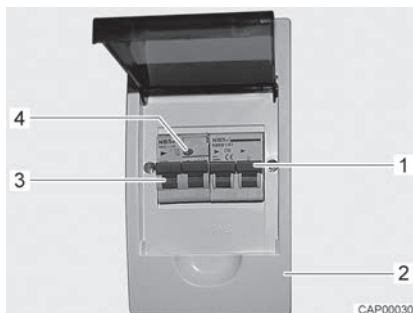

Fig. 51 Safety cut-out and FI-switch (230 V fuse box)
- Switch off the safety cut-out (Fig. 51,1) in the fuse box (Fig. 51,2).
- When the vehicle is connected to the 230 V supply, press the test button (Fig. 51,4) of the fault current protection switch (FI-switch) (Fig. 51,3) in the fuse box (Fig. 51,2). The fault current protection switch must trip.
- Switch the fault current protection switch (Fig. 51,3) back on again.